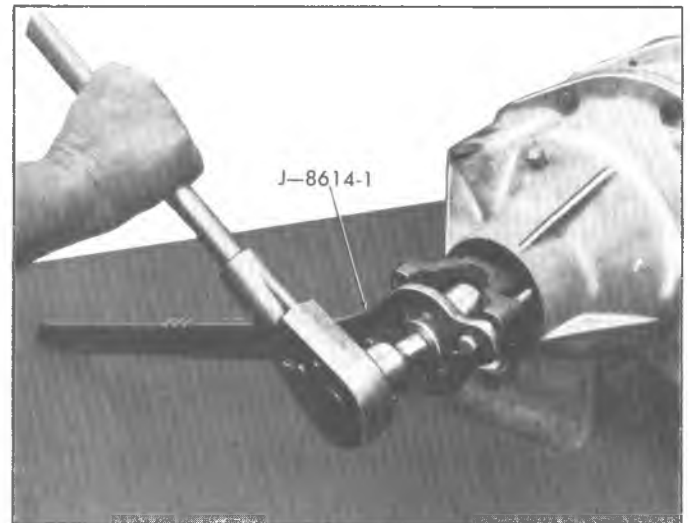

Fig. 4F—Removing Rear Output Shaft Flange Nut
2. Using Tool J-8614-1, loosen rear output shaft flange retaining nut (Fig. 4F).